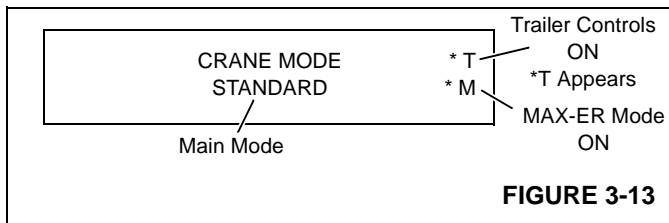

FIGURE 3-13
1. Turn crane mode key clockwise repeatedly until MAX-ER ON appears on display as shown in Figure 3-13.